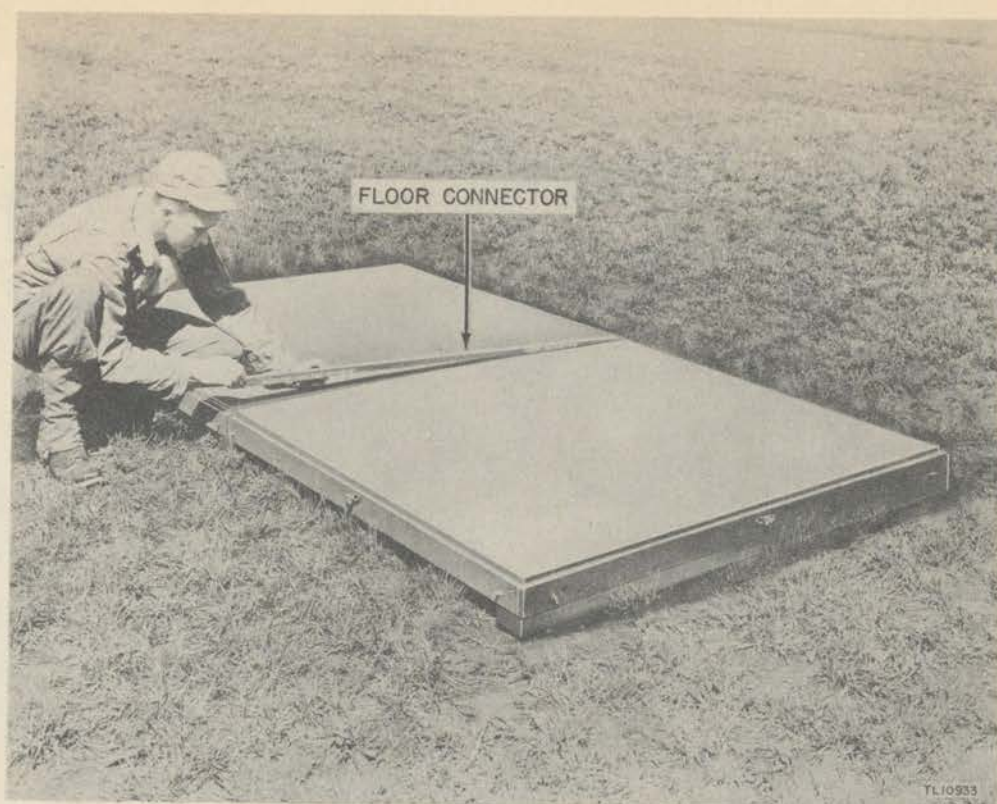

Figure 25. Floor connector installation.
(3) Insert the FLOOR CONNECTOR in the groove between the two floor sections (fig. 25) so that the two cut-outs will drop over the steel hooks attached to the floor sections. In this position the connector will be flush with the floor surface, but will extend approximately 1 inch on one side of the floor. Drive the connector in until it is flush at both sides; the pins in the cut-outs will then be engaged with the steel hooks, and the floor sections will be locked together (fig. 26).